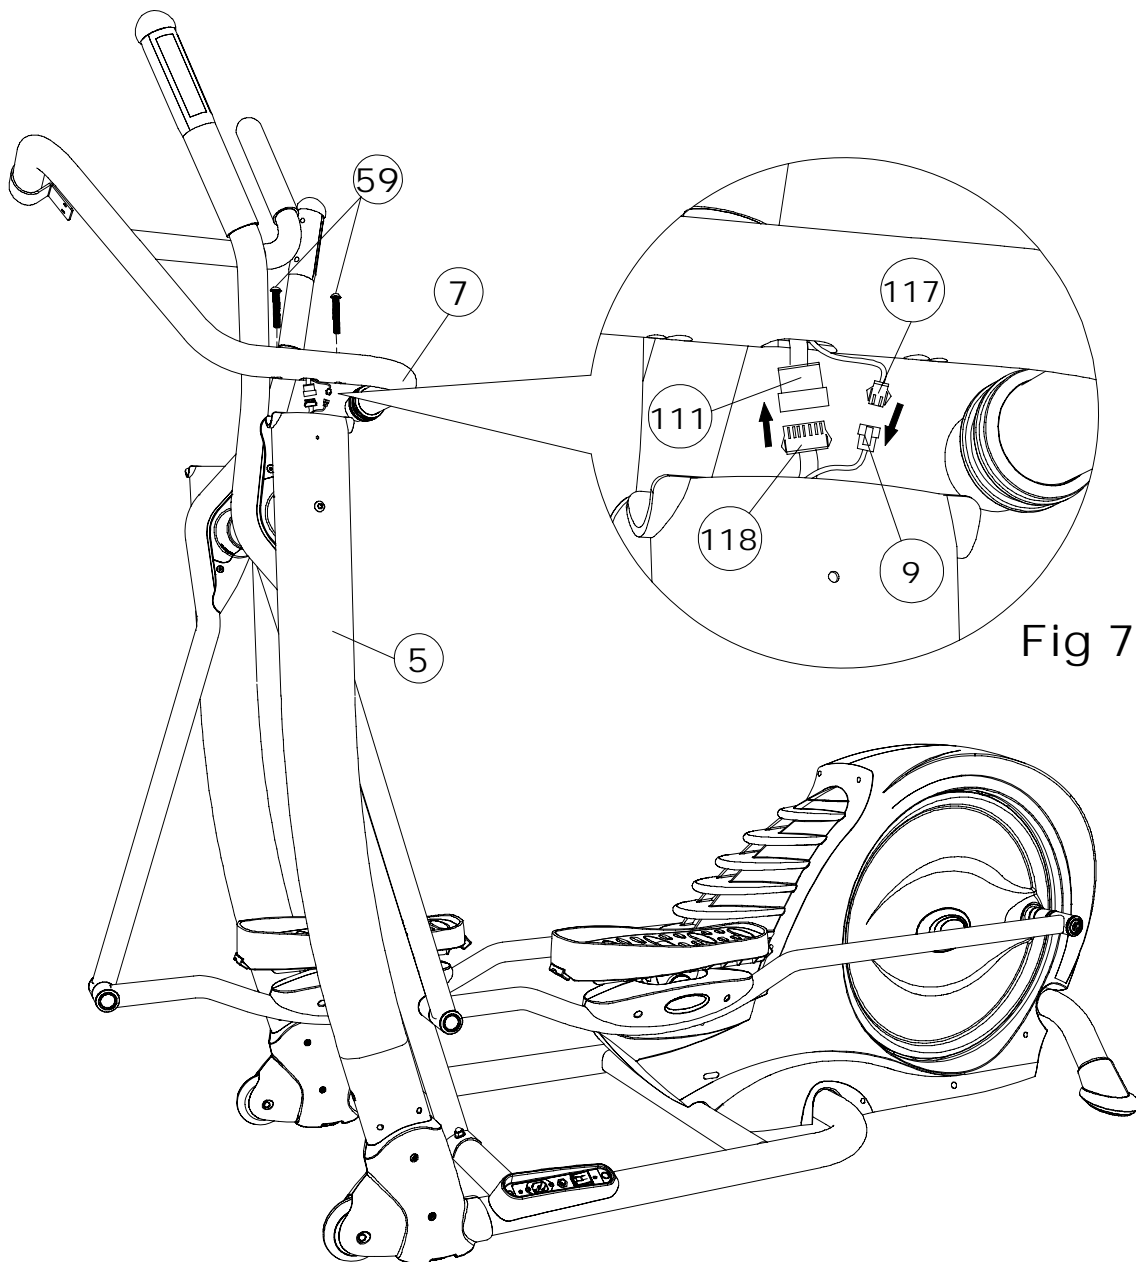

Fig 7
First connect the Wire Harness – Upper (111) to the Wire Harness – Middle (118) and Hand Pulse Sensor Wire –Upper (117) to the Hand Pulse Sensor Wire – Middle (9) as shown in FIG 7.